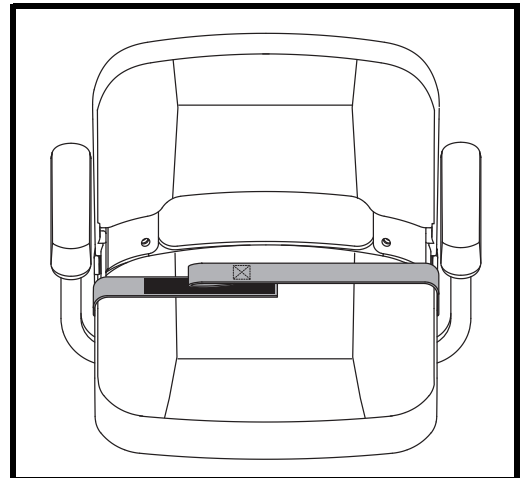

Figure 14. Positioning Belt
Your scooter seat may be equipped with a positioning belt that can be adjusted for operator comfort. See **figure 14**. The positioning belt is designed to help support the operator so that he or she does not slide down or forward in the seat. The positioning belt is not designed for use as a restraining device.
1. Align the two sides of the belt placing the looped-end side directly above the courser side (“hook”) of the opposite belt. Press firmly together to fasten. See **figure 14**.